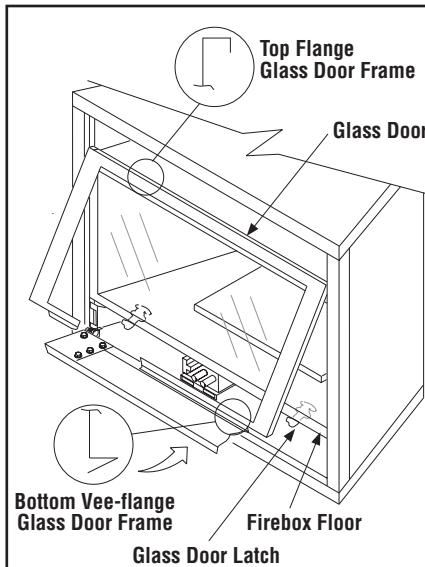

Figure 57 - front face assembly and barrier removed to access glass door
Removing Glass Enclosure Panel (see Figure 57)
Locate the two (2) glass door spring latches at the top of the control compartment (see **Figure 57**). Pull out each spring latch until it disengages from the door frame bottom vee-flange.
Installing Glass Enclosure Panel (see Figure 57)
Position the door in front of the firebox opening with the bottom of the door held away from the fireplace (**Figure 57**). Hook the top flange of the door frame over the top of the firebox frame.